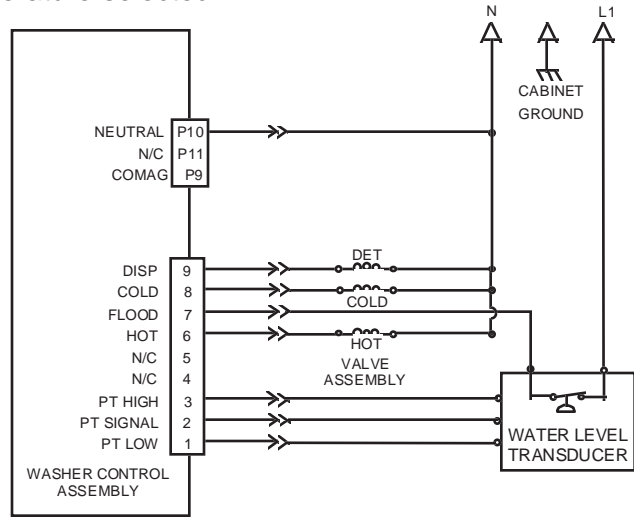

Figure 4
4. If the water level reaches an overfill condition mechanical contacts on the water level transducer will remove the CPU 120V from pin 7 of connector P1. This is the power to energize the fill valves. (Fig. 4)